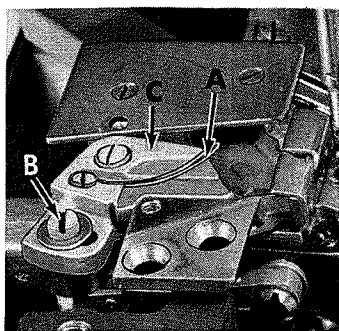

Fig. 19
CAUTION! When removing screws (B) the lower knife is being held against the bottom of the upper knife (C) by spring (A, Fig. 19) and will come out of place when upper knife is removed.
(2) Loosen screw (B, Fig. 19) and move lower knife holder (C, Fig. 19) forwards or backwards for correct knife travel, with the knife at its farthest travel to the right.